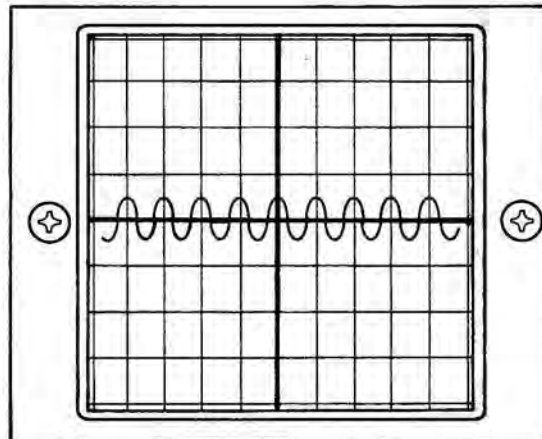

Figure 3-29 Displayed Sinewave Measuring 0.6 Graticule Divisions Peak-to-Peak
12. Rotate DEV-VERT Control (33) to "10 V/DIV". Verify sinewave displayed on CRT Display (36) is 0.6 graticule divisions peak-to-peak (± 5 minor graticule divisions). (See Figure 3-29.)